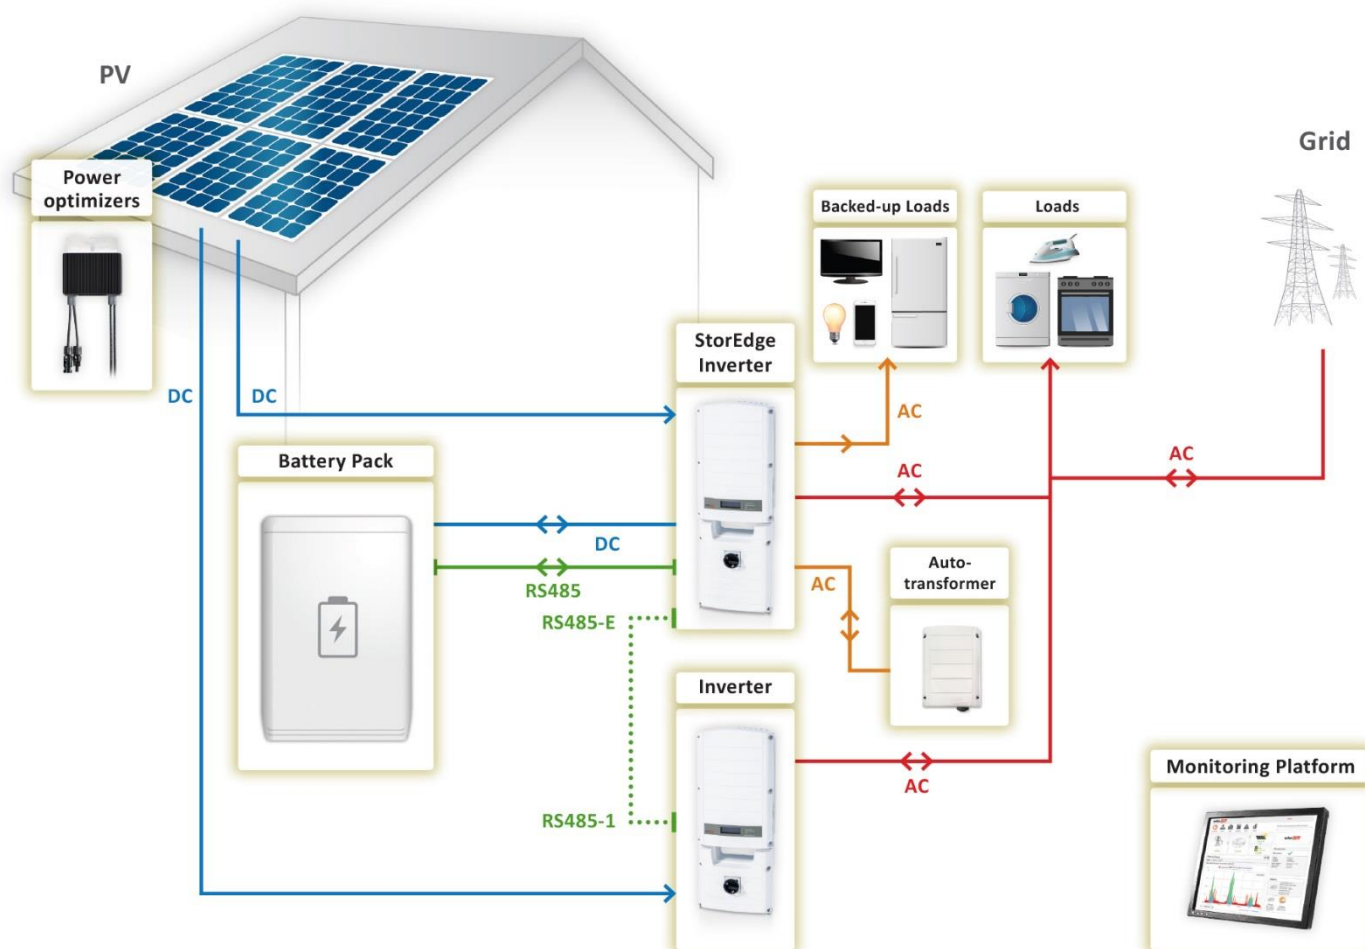

Figure 17: Backup Power Only - Large residential PV systems
- 1 If needed, install the RS485 Expansion Kit in the inverter connected to the battery (the StorEdge inverter in Figure 17). If there is an RS485-2 port in the inverter, use it instead of the expansion kit. *The RS485-E port in the following instructions refers either to the Expansion port or to the RS485-2 port.*